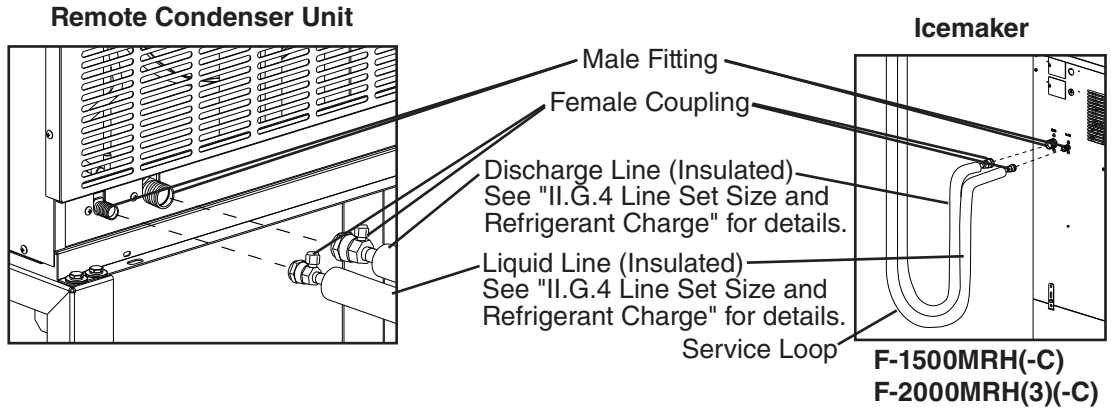

Fig. 11
- b. Apply Polyol Ester (POE) refrigerant oil or Parker Super O Lube to the entire male fitting, including O-ring, diaphragm, and threads before making the connection. See Fig. 11. **NOTICE! Do not use thread sealant on the fittings. Use POE refrigerant oil or Parker Super O Lube only.**
- b. Apply Polyol Ester (POE) refrigerant oil or Parker Super O Lube to the entire male fitting, including O-ring, diaphragm, and threads, before making the connection. See Fig. 11. **NOTICE! Do not use thread sealant on the fittings. Use POE refrigerant oil or Parker Super O Lube only.**